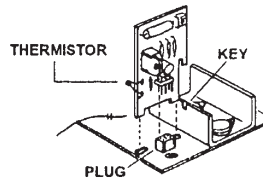

Figure 1
| Figure 1 Air flow sensor diagram | 5 |
4. Locate the AFS. It is a circuit board with a small grey disc connected to the circuit board by two(2) silver wires (similar to Figure 1). Carefully bend the thermistor so that it is located in the center of the opening and approximately 1/8" from the inside edge of the power pack assembly.